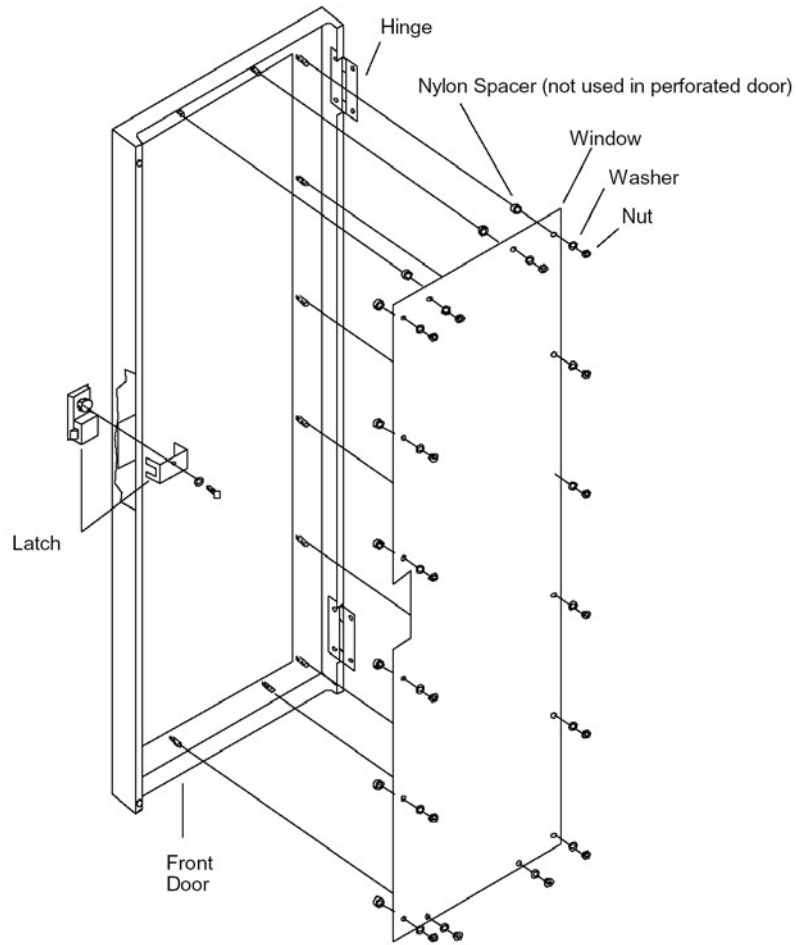

Figure 1. Front Door Kit
1. Slip the nylon washers over the threaded studs on the door frame assembly (nylon washers are not used with the perforated door). Then place the Plexiglas/perforated panel against the frame so the threaded studs slide through the holes in the panel. Secure the panel with the washers and nuts as shown in the diagram in Figure 1.
4. Attach the latch to the front door assembly. Insert the bolt through the latch bracket and into the latch itself, as shown in Figure 1.